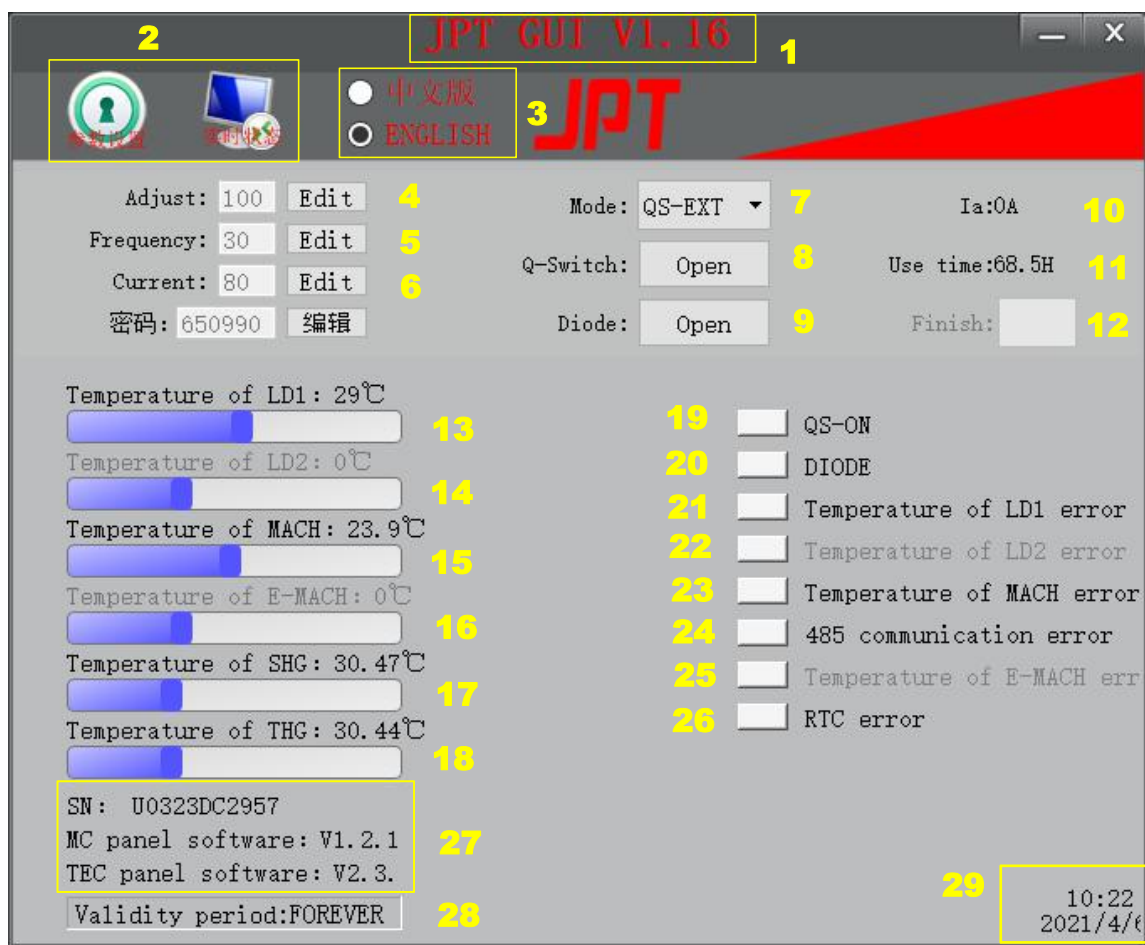

Figure 11 GUI function explanation
2) Select COM port connected with laser and click “Connect” button to enter interface 2 (Figure 11). If the connection fails, the COM port may be selected incorrectly. Reselect COM port and connect again.